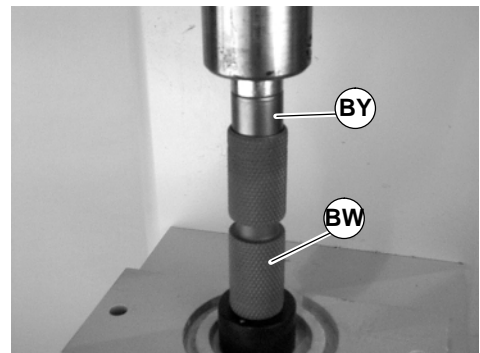

Figure 65
4. Press bearing (BY of Figure 65) into pulley (BW) until seated.